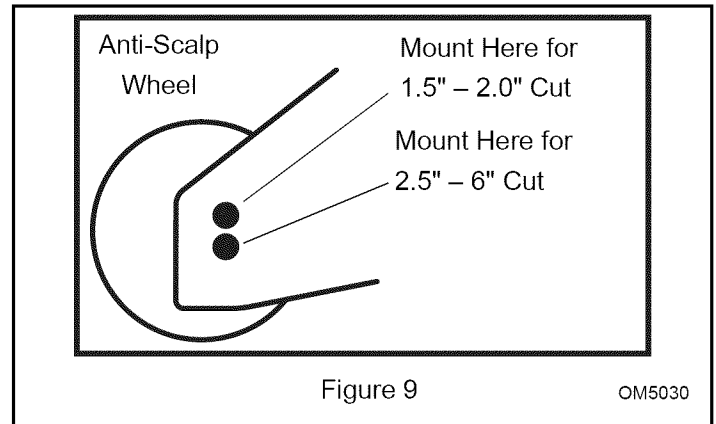

Figure 9
4. To adjust the anti-scalp rollers, remove the 5/8-11 x 4.25" bolts and reinstall the bolts in the appropriate hole for the desired height of cut (see figure 9).